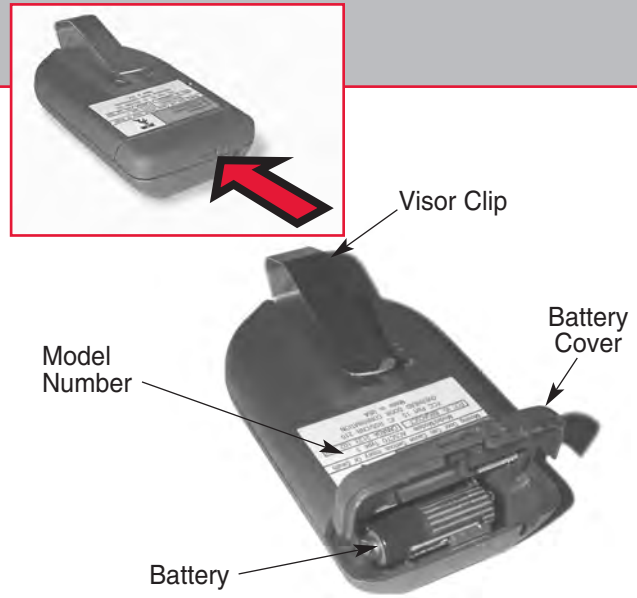

Fig. 6-1 Replacing battery
1. Install / replace battery (Fig. 6-1).
2. Attach visor clip (Fig. 6-1).